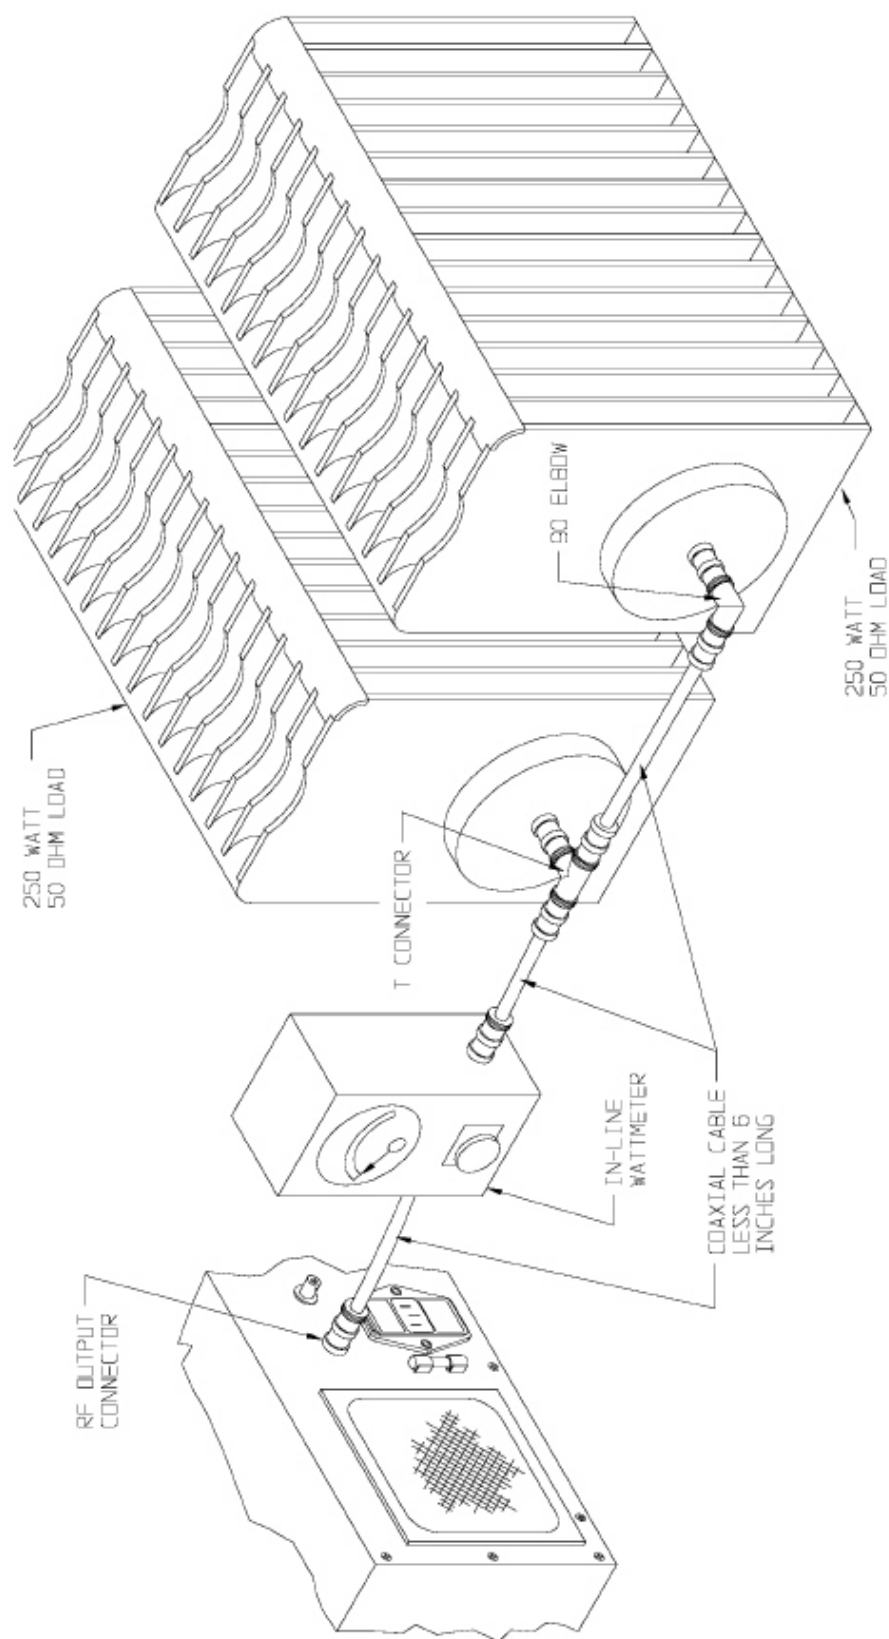

Figure 6-3. PARALLEL LOAD CONNECTION
- E. Refer to Figure 6-3 and place jumper P7 in position 2-3.
- H. Refer to Figure 6-3 and adjust power output control R67 for a 250 watt output power indication on the external meter.
- I. Refer to Figure 6-3 and adjust forward power calibrate control R4 for 3.000V at TP1.
- K. Check for a 9.00 volt dc multi-meter indication. If the multi-meter does not indicate 9.00 volts, refer to Figure 6-3 and adjust forward power square circuit calibrate control R7 for a 9.00 volt dc indication on the multi-meter.
- L. Check for a 250 watt indication on the IPA unit multi-meter. If the IPA unit multi-meter does not indicate 250 watts, refer to Figure 6-3 and adjust forward power calibrate control R4 for a 250 watt indication on the IPA unit multi-meter.
- N. Refer to Figure 6-3 and place jumper P7 in position 1-2.
- P. Refer to Figure 6-3 and adjust power output control R67 for the forward power value recorded at the beginning of the procedure.
- E. Refer to Figure 6-3 and operate power output control R67 fully counterclockwise.
- H. Refer to Figure 6-3 and adjust power output control R67 for a 10 watt reflected power indication on the external meter.
- I. Refer to Figure 6-3 and adjust reflected power calibrate control R25 for a 3.000V at TP2.
- K. Check for a 9.00 volt dc multi-meter indication. If the multi-meter does not indicate 9.00 volts, refer to Figure 6-3 and adjust reflected power square circuit calibrate control R28 for a 9.00 volt dc indication on the multi-meter.
- N. Refer to Figure 6-3 and adjust VSWR fold-back calibrate control R52 for a 4.3 volt indication on the multi-meter. The IPA unit front-panel VSWR indicator will illuminate. If the VSWR indicator does not illuminate, readjust VSWR fold-back calibrate control R52 slightly until the VSWR indicator just illuminates.
- O. Refer to Figure 6-3 and operate power output control R67 fully counterclockwise.
- U. Refer to Figure 6-3 and adjust power output control R67 for the forward power value record at the beginning of the procedure.